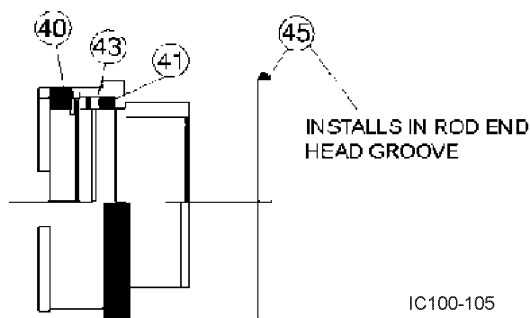

Figure 3 Installation of Gland
8. Install wiperseal, (See Figure 3 item 40), in groove closest to end of gland. Slightly collapse back-up washer, (See Figure 3 item 43), and install in seal groove. Make sure it is flat against wall of groove.
9. Install lipseal, (See Figure 3 item 41), in seal groove. Lips of seal should point toward the long bearing side of gland.
An O-ring. (See Figure 3 item 45), is supplied with each gland cartridge kit. It serves as a seal between the gland and the head. This O-ring is a static seal and does not normally require replacement. The original O-ring may be left in place, unless it is known to be leaking (fluid flow around gland thread).